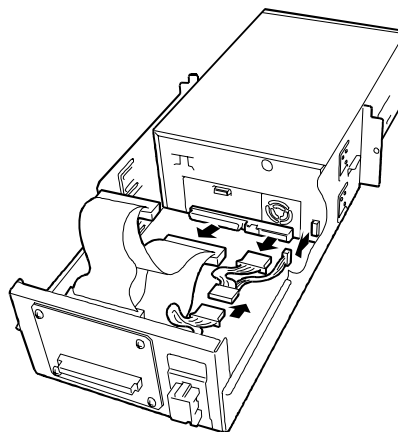

Figure 4-50. Disconnecting the Power and Data Cables
2. From the bay where you want to remove the device, remove the two screws securing the device to the 5 1/4-inch device tray and pull the device halfway out the tray. Then disconnect the power and data cables from the device, see Figure 4-50